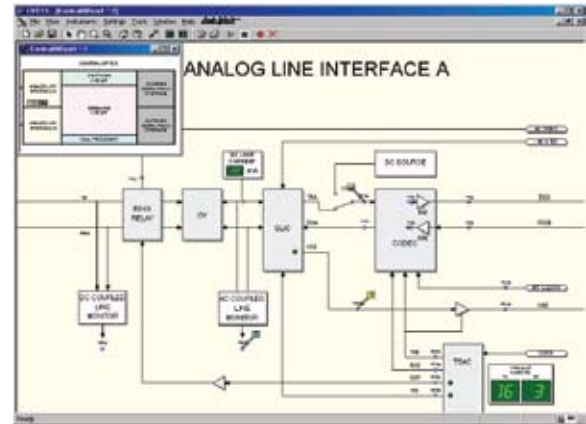

Fig. 2
- Display the functional block diagram of the telephony equipment (CO, digital PABX, etc.) implemented in the Reconfigurable Training Module (see Figure 2).